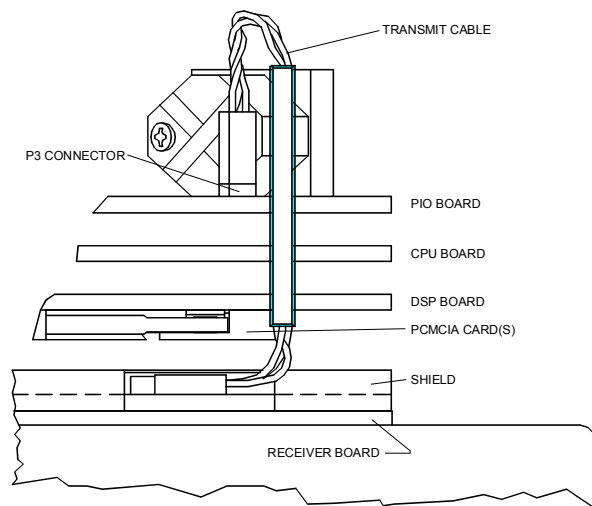

Figure 25. Transmit Cable
- c. Note the orientation of the transmit cable connector as it is plugged into the PIO board and to the Receiver board (see Figure 25).